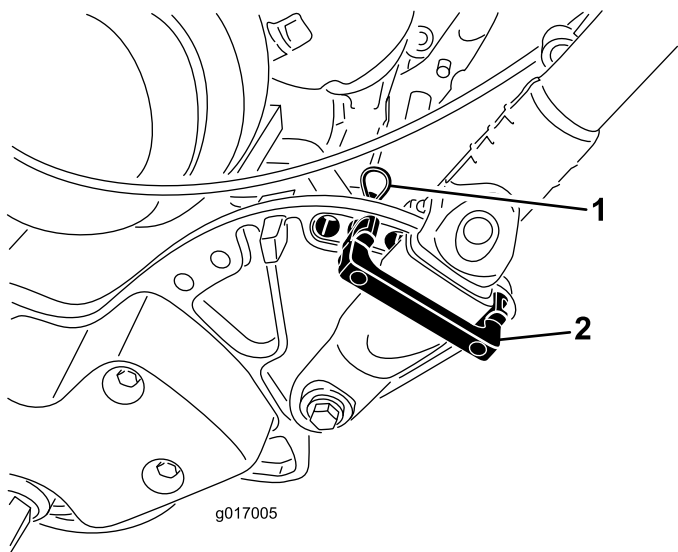

Figure 24
1. Remove the hairpin cotters from the handle retainers on each side of the mower (Figure 24).
2. While supporting the handle, remove the hairpin cottes from each side and pivot the handle to the desired operating position (Figure 24).